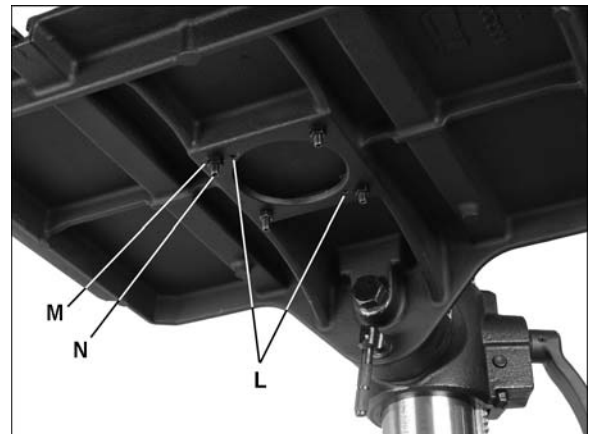

Figure 12
Referring to Figures 12 and 13:
1. Remove two screws beneath table insert (L, Figure 12).